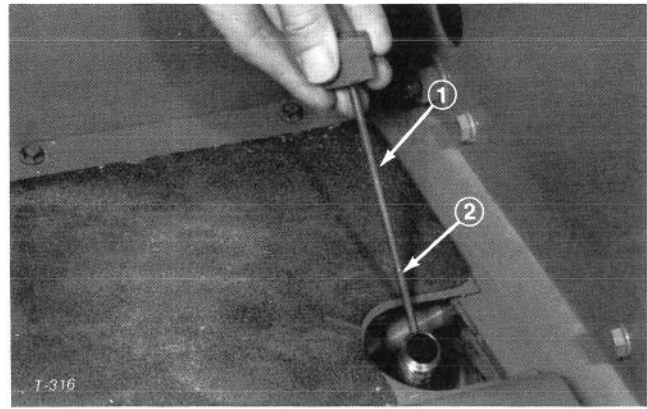

Figure 53
6. Remove dipstick from axle filler tube and fill axle to proper level (Fig. 53). Reinstall the dipstick.